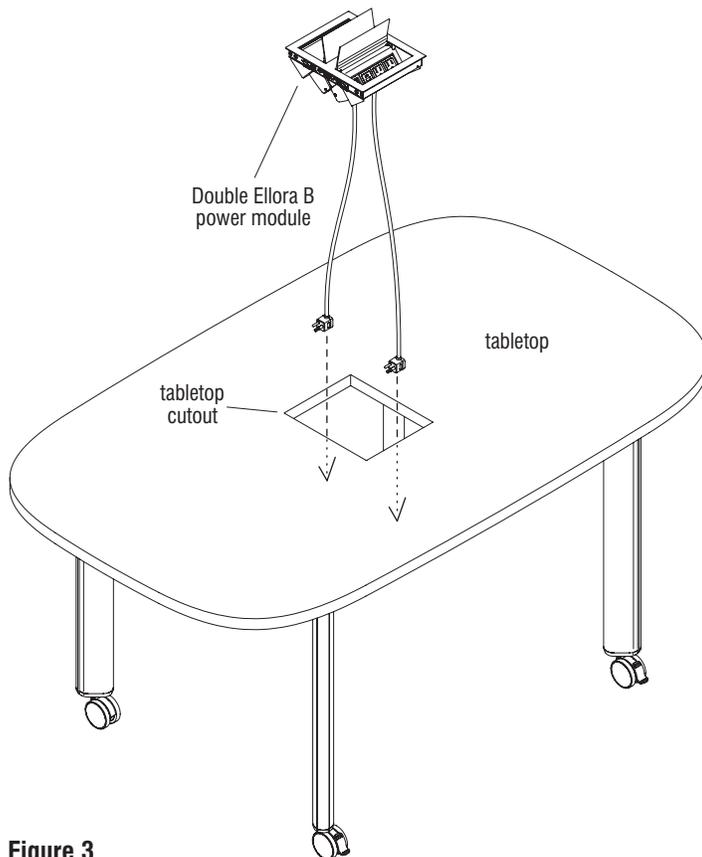

Figure 3
2. With the assembled table in the upright position, orient the Double Ellora B in-surface power module as shown and route the plug ends down through the tabletop cutout. Press the module down firmly into the cutout to secure in place, making sure the two clips on each side of the module catch under the cutout bottom edge of the tabletop (Figure 3).